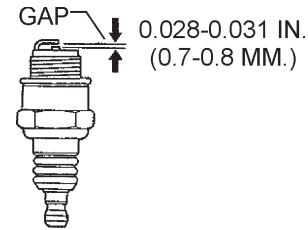

Figure 16. Spark Plug Gap
1. Remove and clean the spark plug (Figure 16), then adjust the spark gap to 0.028 ~0.031 inch (0.6~0.7 mm).